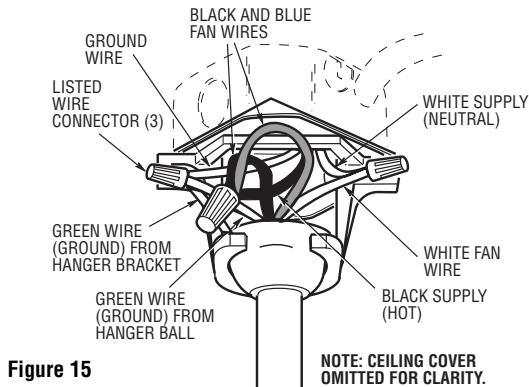

Figure 15
- 1. Connect the green grounding lead from the hanger ball and the green grounding lead from the hanger bracket to the green grounding conductor of supply (this may be a bare wire or wire with green colored insulation). Securely connect wires with wire connectors supplied. (Figure 15.)
- 2. Securely connect the fan motor white wire to the supply white (neutral) wire using wire connector supplied (Figure 15). Securely connect the fan motor black wire and blue wire to the supply black (hot) wire using wire connector supplied (Figure 15). After connections have been made, turn leads upward and carefully push leads into the outlet box, with the white and green leads on one side of the outlet box and the black and blue leads on the other side of the outlet box.